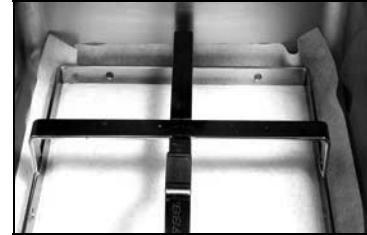

Figure 3
4. Position the hold-down ring over the filter paper and lower the ring into the pan, allowing the paper to rest on the sides of the filter pan (see Figure 3).